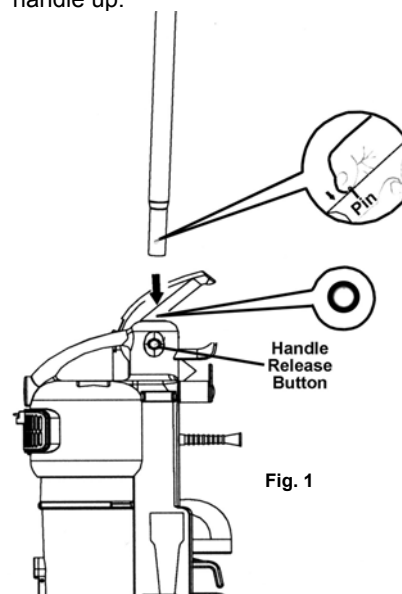

Fig. 1
- Insert the handle into the hole on the top of the unit. Make sure that the slot in the handle fits correctly into the opening. (Fig. 1)